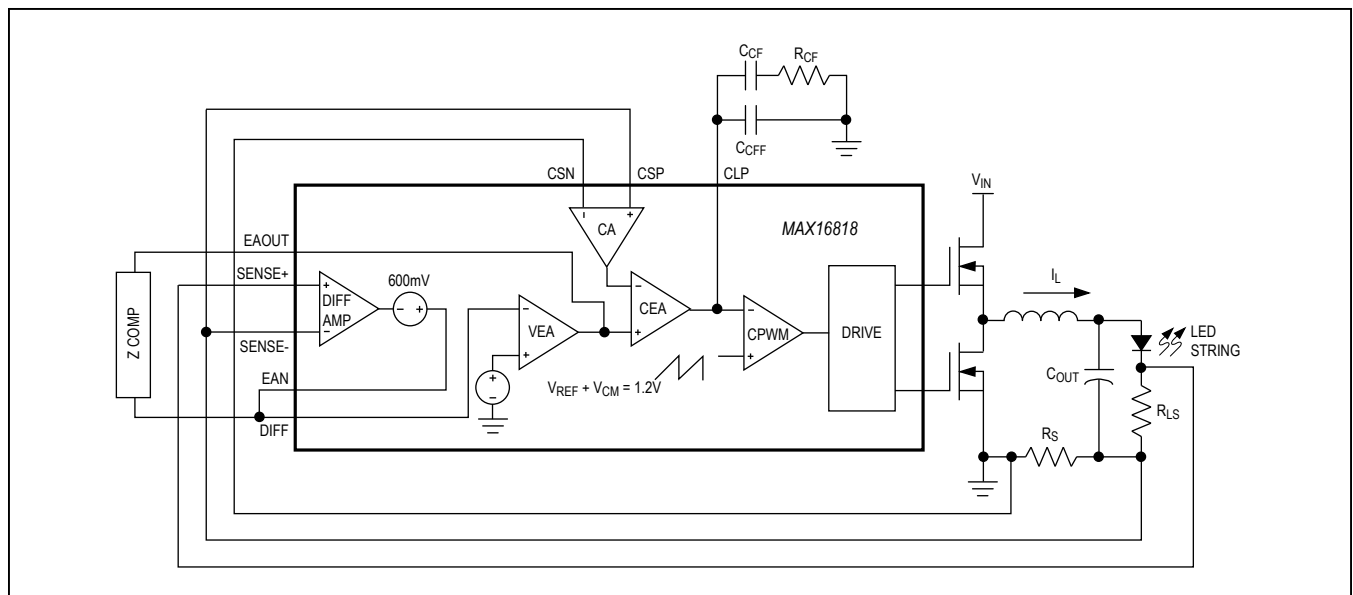

Figure 7. MAX16818 Control Loop
The MAX16818 uses an average-current-mode control scheme to regulate the output current (Figure 7). The main control loop consists of an inner current loop for controlling the inductor current and an outer current loop for regulating the LED current. The inner current loop absorbs the inductor pole reducing the order of the outer current loop to that of a single-pole system. The current loop consists of a current-sense resistor ( $R_S$ ), a current-sense amplifier (CA), a current-error amplifier (CEA), an oscillator providing the carrier ramp, and a
PWM comparator (CPWM) (Figure 7). The precision CA amplifies the sense voltage across  $R_S$  by a factor of 34.5. The inverting input to the CEA senses the CA output. The CEA output is the difference between the voltage-error amplifier output (EAOUT) and the amplified voltage from the CA. The RC compensation network connected to CLP provides external frequency compensation for the CEA. The start of every clock cycle enables the high-side drivers and initiates a PWM on-cycle. Comparator CPWM compares the output voltage from the CEA with a 0V to 2V ramp from the oscillator. The PWM on-cycle terminates when the ramp voltage exceeds the error voltage. Compensation for the outer LED current loop varies based upon the topology.
The MAX16818 has a transconductance current-error amplifier (CEA) with a typical  $g_m$  of 550 $\mu$ S and 320 $\mu$ A output sink- and source-current capability. The current-error amplifier output CLP serves as the inverting input to the PWM comparator. CLP is externally accessible to provide frequency compensation for the inner current loops (Figure 7). Compensate CEA so the inductor current negative slope, which becomes the positive slope to the inverting input of the PWM comparator, is less than the slope of the internally generated voltage ramp (see the *Compensation* section).
The DIFF AMP facilitates remote sensing at the load (Figure 7). It provides true differential LED current (through the  $R_{LS}$  sense resistor) sensing while rejecting the common-mode voltage errors due to high-current ground paths. The VEA provides the difference between the differential amplifier output (DIFF) and the desired LED current-sense voltage. The differential amplifier has a bandwidth of 3MHz. The difference between SENSE+ and SENSE- is regulated to 0.6V. Connect SENSE+ to the positive side of the LED current-sense resistor and SENSE- to the negative side of the LED current-sense resistor (which is often PGND).